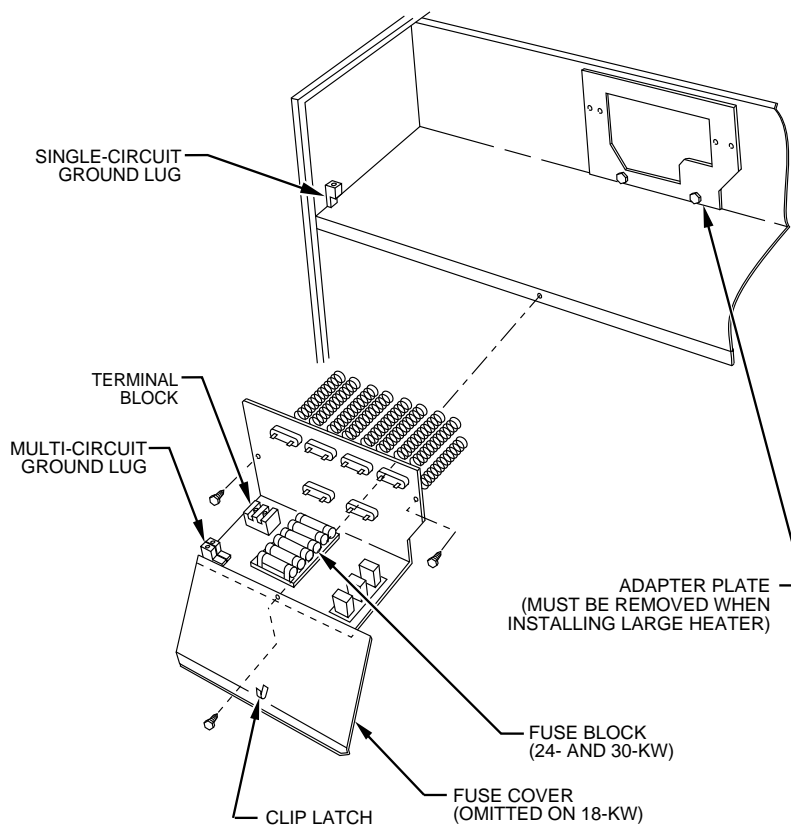

Fig. 1—Installation of 18-, 24-, and 30-kw Model Heaters
3. Disconnect 2 power wires (black and yellow pigtail leads) from PCB or wire harness (if applicable) and discard. Wires may be part of a plug assembly or attached to terminals L1 and L2. Remove cooling control plate from fan coil (if equipped). For 18-, 24-, and 30-kw heaters, remove adapter plate. (See Fig. 1.)
5. Attach heater control plate to fan coil using 2 screws provided. For 18-, 24-, and 30-kw heater models, attach front of heater to fan deck using third screw. (See Fig. 1.)
Fuse assembly is mounted on heater. Be sure fuse cover is closed by engaging clip latch on unit top panel. (See Fig. 1.)